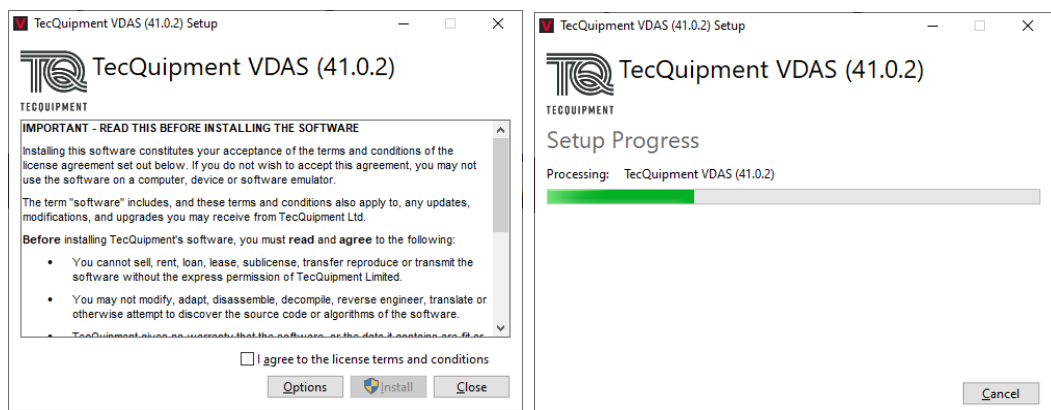

Figure 4 License Screen and Setup Progress Screen
2. Run the installer to install VDAS® e-lab. This will add an entry to the start menu. Check the 'I agree to the license terms and conditions' check box and click the 'Install' button, the Setup Progress screen will show (Figure 4).